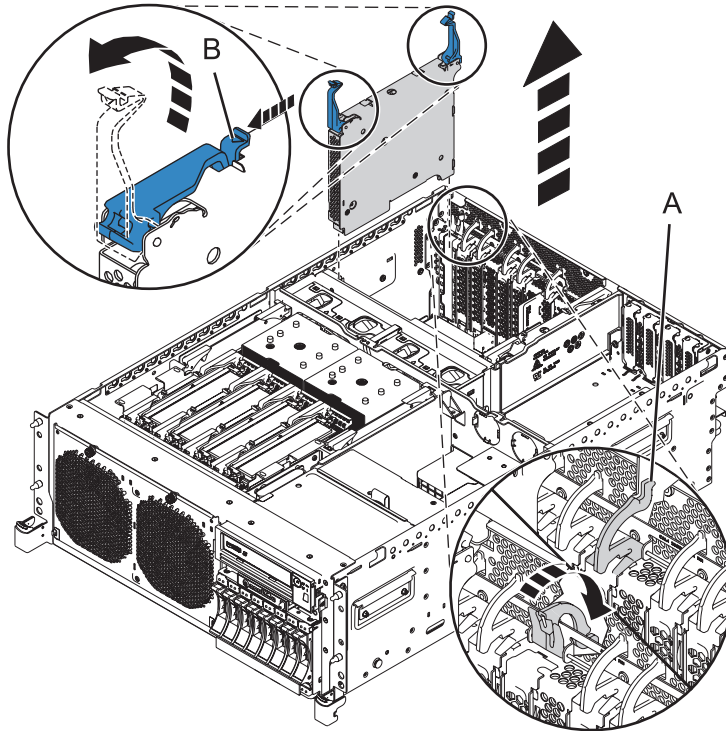
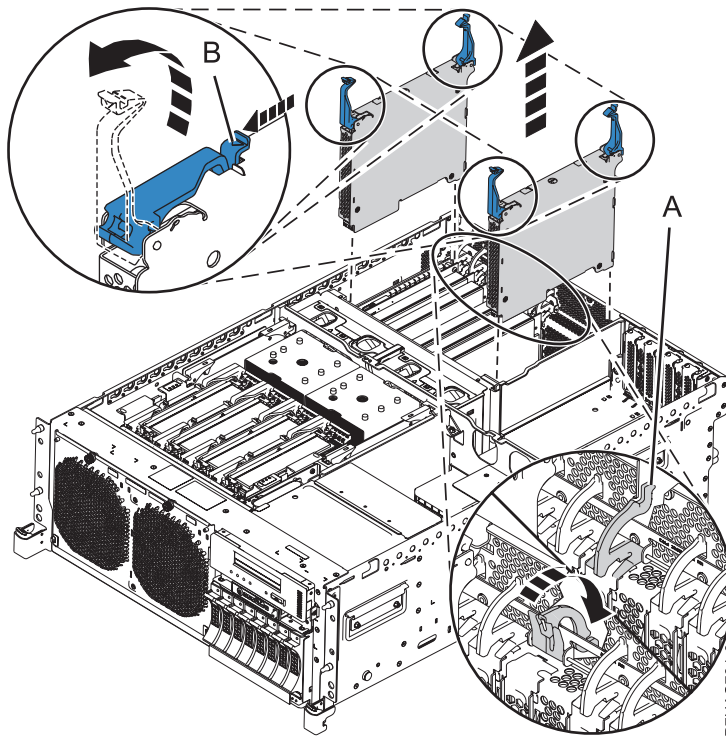

Figure 7. Removing the GX adapter from a rack-mounted 02E/4B or 05F/6B system
Figure 8. Removing the GX adapter (FC EJ03) from a rack-mounted 02E/4C, 02E/4D, 05E/6C, or 05E/6D system
12. With the system in the service position, remove the existing adapter assembly as shown in Figure 7 on page 10 and Figure 8 on page 10. Unlock the latch above the adapter slot **(A)** by pulling the latch toward the rear of the system.